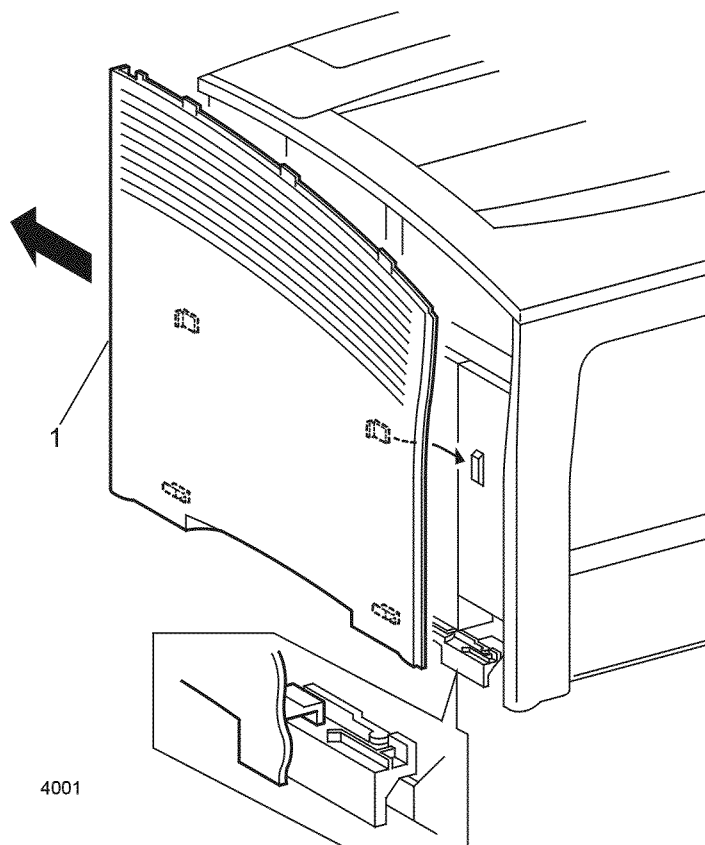

Figure 1 Removing the Left Side Cover
1. Slide the Left Cover toward the rear of the printer (Figure 1).